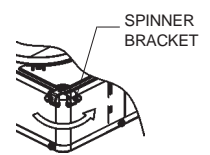

FIG.2
2. Rotate each spinner bracket 90°. (Fig.2)